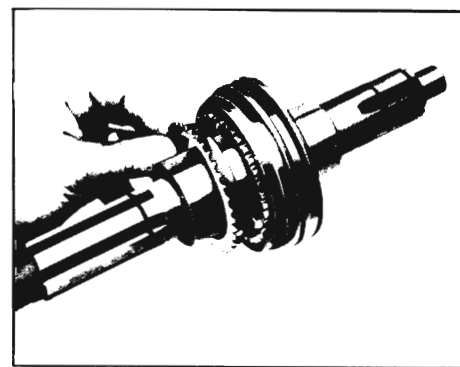

Figure 4-135—Installing Synchronizing Ring
2. Install the first speed gear synchronizing ring so the notches in the ring correspond to the keys in the hub. See Figure 4-135.